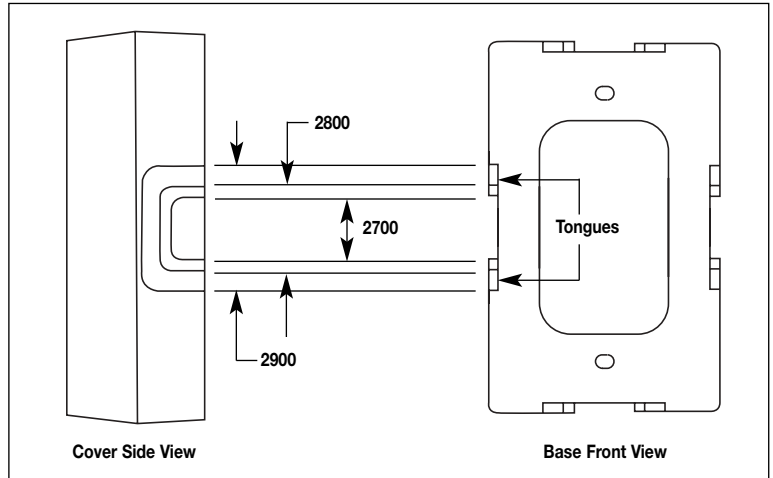

Figure 1
1. Remove proper tongue on the device box (NM2048) base. (See Figure 1.)